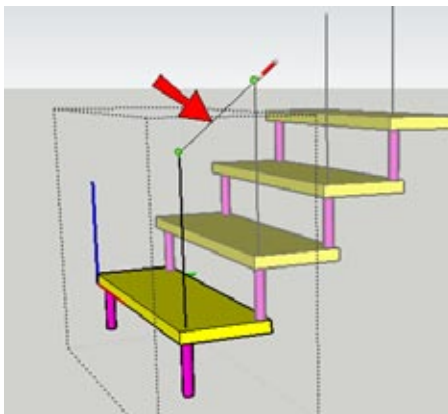

Figure 7-102
- To add a rail to the staircase, open the bottom tread component for editing, and use the Line tool to create a Follow Me path. Figure 7-102 shows a vertical path starting just above the support, connected to a diagonal path that meets the vertical path from the tread above.